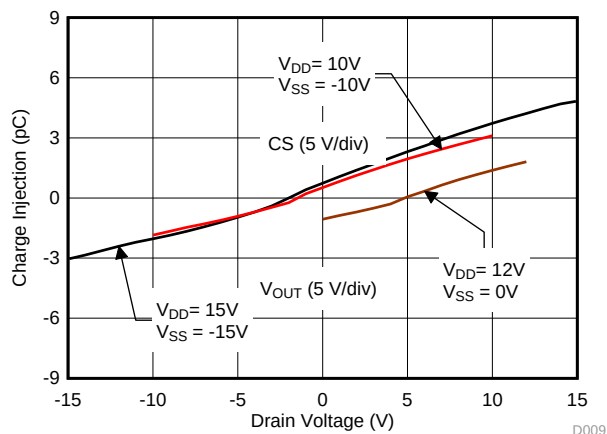

图 32. Drain-to-Source Charge Injection vs Drain Voltage
The drain (D)-to-source (S_x) charge injection becomes important when the device is used as a demultiplexer (demux), where the drain (D) becomes the input and the source (S_x) becomes the output. 图 32 shows the drain-to-source charge injection across the full signal range.